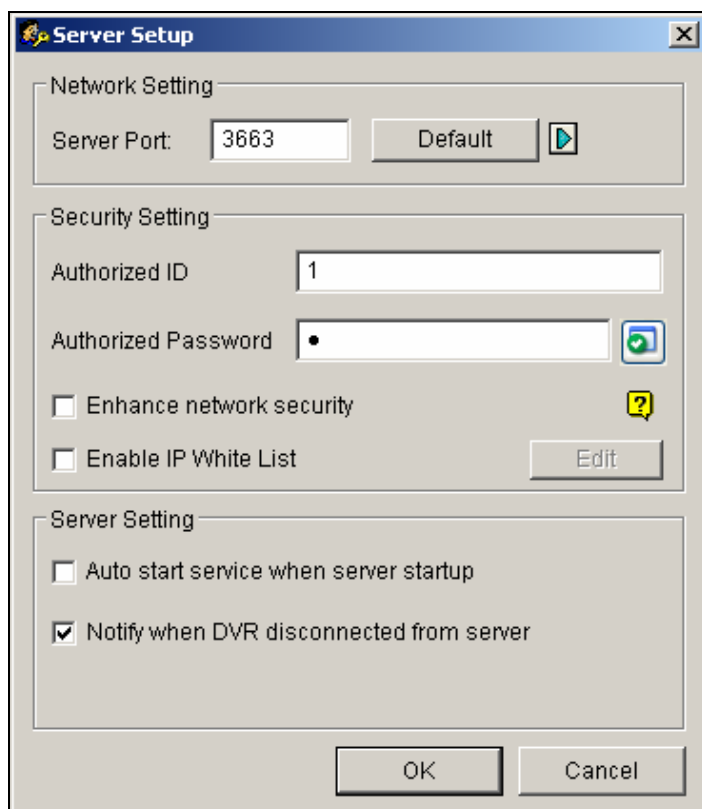
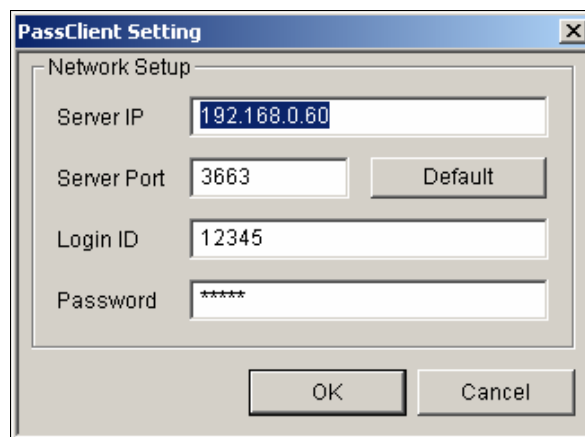

Figure 11-29 Sever Setup
Figure 11-31 PassClient Setting
1. The valid ID and password created in the Authentication Server (see Figure 11-29) don't match those in the GV-System (see Figure 11-31).